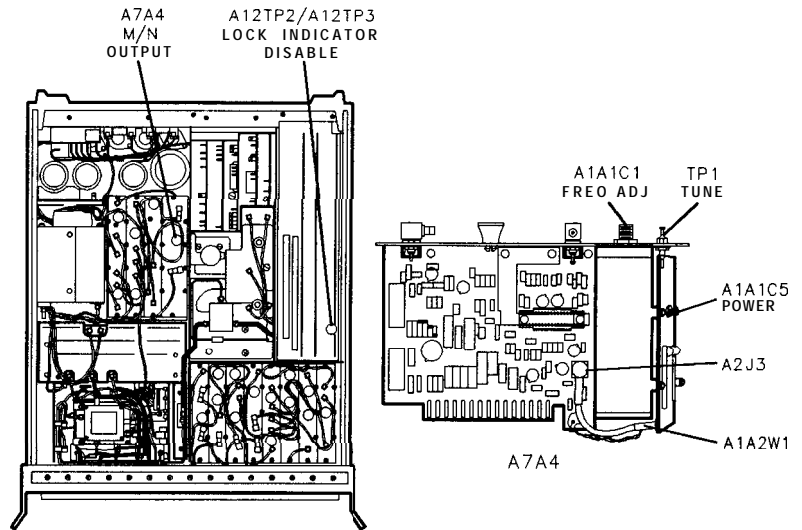

Figure 3-68. Location of PLL Adjustments
3. Connect a jumper between A12TP2 and A12TP3 (LOCK INDICATOR DISABLE) in the RF Section. Refer to Figure 3-68 for the location of A12TP2 and A12TP3.
4. Disconnect the cable 93 (white/orange) from A7A4J2 M/N OUT in the RF Section. Refer to Figure 3-68 for the location of the A7A4 M/N Output Assembly.
16. Disconnect the cable 9 (white) A7A4A1A2W1 from A7A4A2J3 on the A7A4 M/N Output Assembly. Refer to Figure 3-68 for the location of A7A4A1A2W1 and A7A4A2J3. Use an SMB male-to-male adapter and a BNC to SMB Snap-on Test Cable to connect the white cable to the input of the second spectrum analyzer.
19. Adjust A7A4A1A1C5 PWR for an M/N VCO output level of 0.0 dBm \pm 2.0 dB as indicated on the second spectrum analyzer display. Refer to Figure 3-68 for the location of A7A4A1A1C5 PWR adjustment.